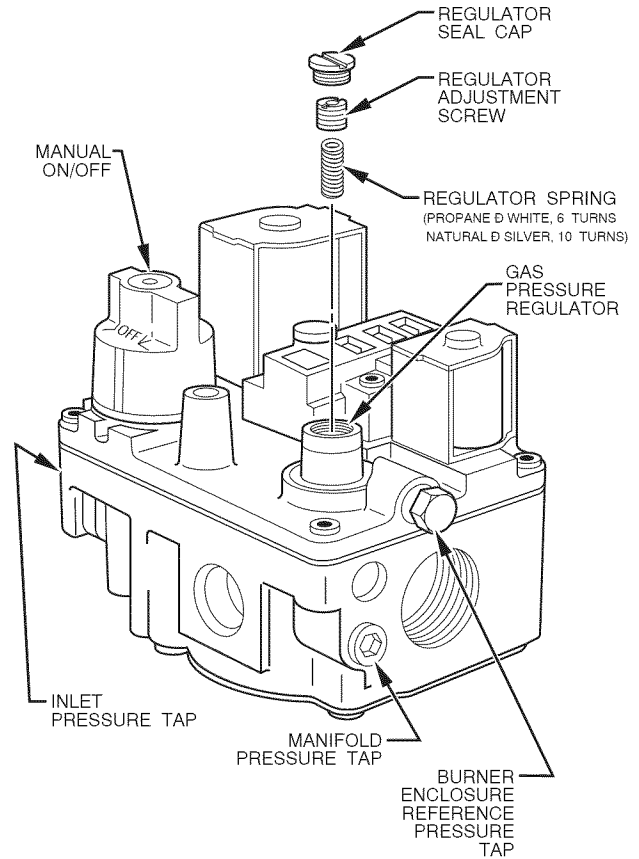

Fig. 36 – Single Stage Gas Valve (With Manual Control Knob), Series E
2. Remove regulator seal cap. (See Fig 36, 37, or 38.)
2. Remove 1/8-in. pipe plug from inlet pressure tap on gas valve. (See Fig. 36, 37, or 38.)
2. Remove 1/8-in. pipe plug from manifold pressure tap on gas valve. (See Fig. 36, 37, or 38.)
3. Attach manometer to manifold pressure tap on gas valve (See Fig. 36, 37, or 38.)
- a. Remove regulator adjustment seal cap. (See Fig. 36, 37, or 38.)
- 6. Remove manometer and reinstall manifold-pressure tap plug. (See Fig. 36, 37, or 38.)